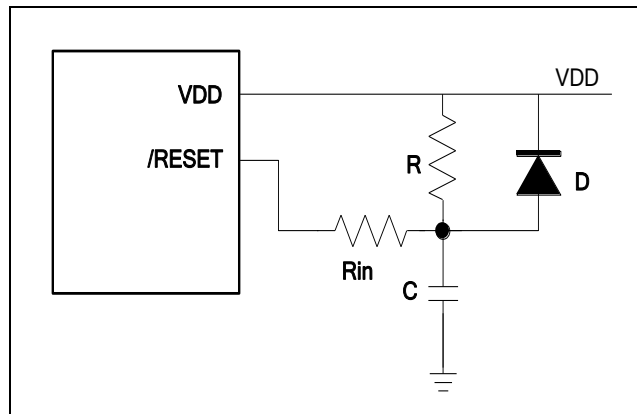

Figure 6-32 External Power-up Reset Circuit
The circuits shown in Figure 6-32 implement an external RC to generate a reset pulse. The pulse width (time constant) should be kept long enough for VDD to reach minimum operating voltage. Apply this circuit when the power supply has a slow rising time. Since the current leakage from the /RESET pin is about ±5 μA, it is recommended that R should not be greater than 40 KΩ in order for the /RESET pin voltage to remain at below 0.2V. The diode (D) acts as a short circuit at the moment of power down. The capacitor (C) will discharge rapidly and fully. The current-limited resistor (Rin) will prevent high current or ESD (electrostatic discharge) from flowing to Pin /RESET.